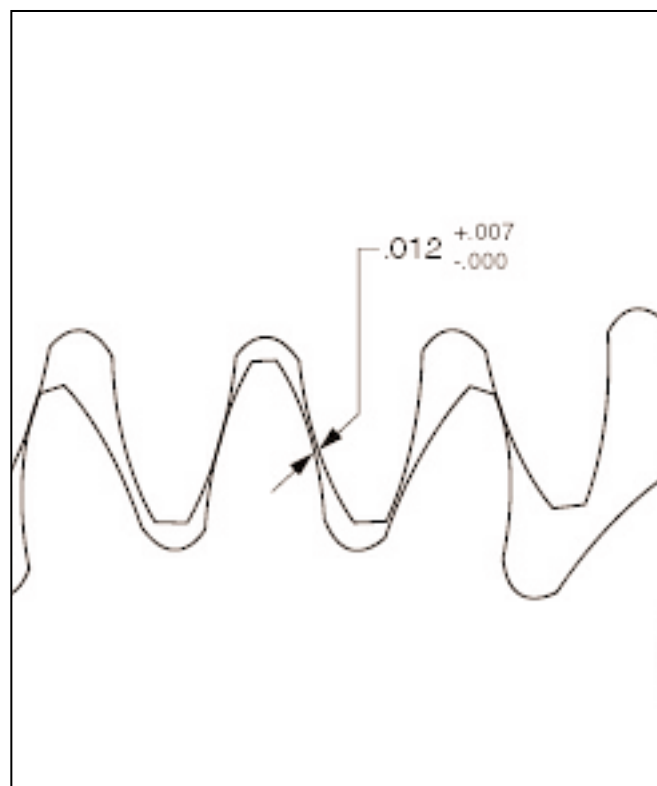

Figure 11.6 GEAR TOOTH GAP
The bull gear must be turned in order to extend its life span. Turn bull gear when .020" (.5mm) clearance develops between pinion and bull gear teeth (figure 11.6).
11.3.5 PINION SHAFT (FIGURE 11.6 AND 11.7)